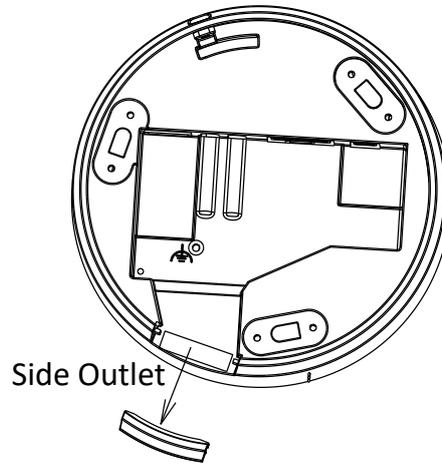

Figure 4-6 Side Outlet
**NOTE:** (Optional) Routing the cable from the side outlet instead of the cable hole drilled on the ceiling is possible. Use pliers to remove the part shown in Figure 4-6, and simply route the cables through the side outlet.